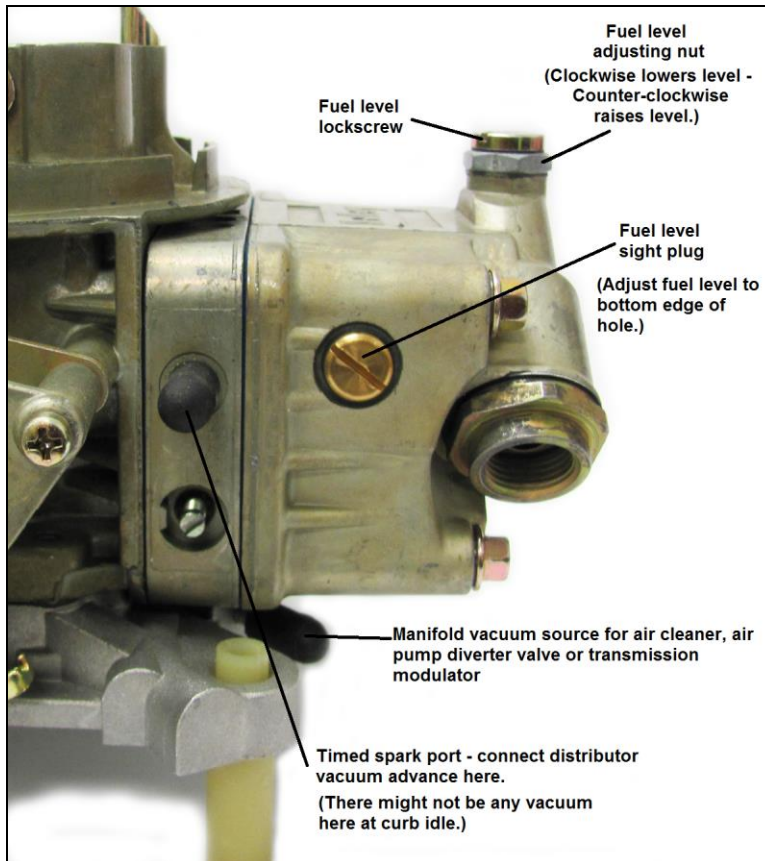

Figure 4
1. **Fuel Level:** On level ground with the engine running, remove the primary and secondary fuel level sight plugs. Loosen the lock screw and turn the adjusting nut clockwise to lower the fuel level and counterclockwise to raise the level. Fuel level will be properly adjusted when the fuel begins to trickle out of the sight hole. Tighten the lockscrew and replace the fuel level sight plugs. See Figure 4.